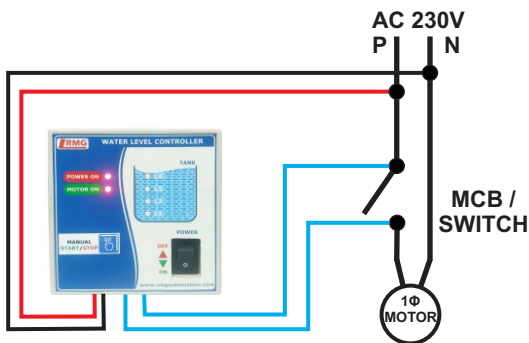
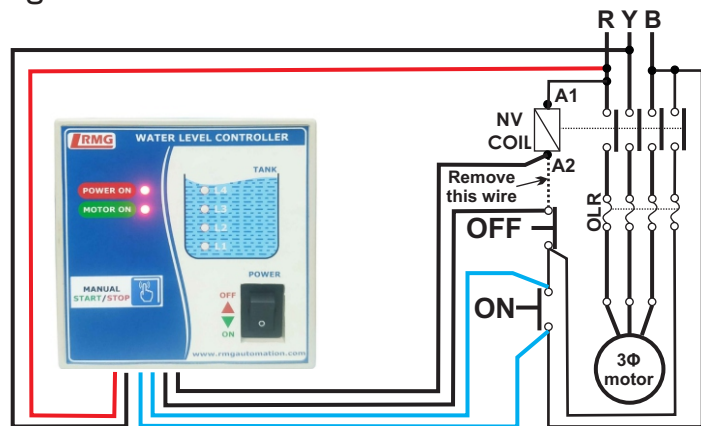
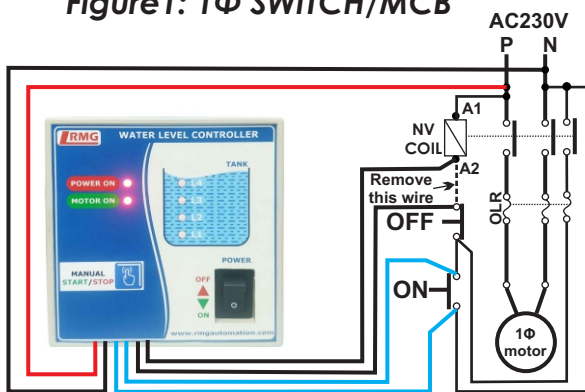

Figure1: 1Φ SWITCH/MCB
Figure2: 3Φ Starter
Figure3: 1Φ Starter
Step 2: As per the model purchased, check the label and connect AC supply (230V / 440 V) to 1st and 2nd terminal of the controller (red and black wire) refer figure 1 and figure 2.
Step 3: For switch or MCB, Connect 3rd and 4th terminal of the controller (blue pair wire) to the switch/MCB of the motor in parallel as shown in figure 1.
Step 4: For starter, Connect 3rd and 4th terminal of the controller (blue pair wire) to ON button of starter in parallel and 5th and 6th terminal (black pair wire) to OFF button in series (Refer to figure.2 and figure.3)